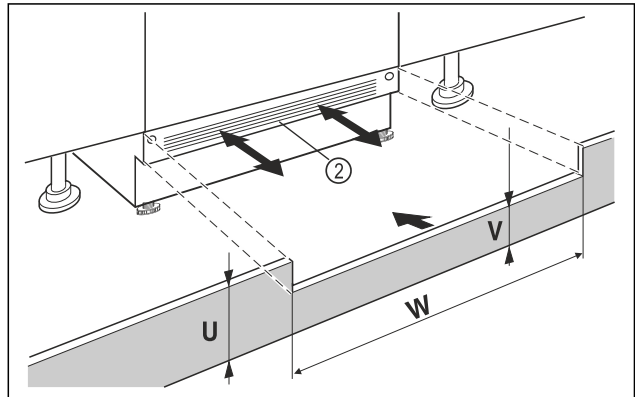

Fig. 70 Example illustration
- ▶ Put on the appliance base cover Fig. 70 (2) but do not fix it in place yet.
- ▶ If the base panel is visible Fig. 70 (2), pull it forwards so that the front edge of the ventilation grille and the unit base panel are level.
- ▶ If the base panel is concealed Fig. 70 (2), push it all the way back.
- ▶ Ensure that the ventilation slots are completely free: If necessary, cut the height of the unit base panel Fig. 70 (U) to size!
- ▶ Adjust the web height Fig. 70 (V) under the appliance base panel Fig. 70 (2) along the niche width Fig. 70 (W).